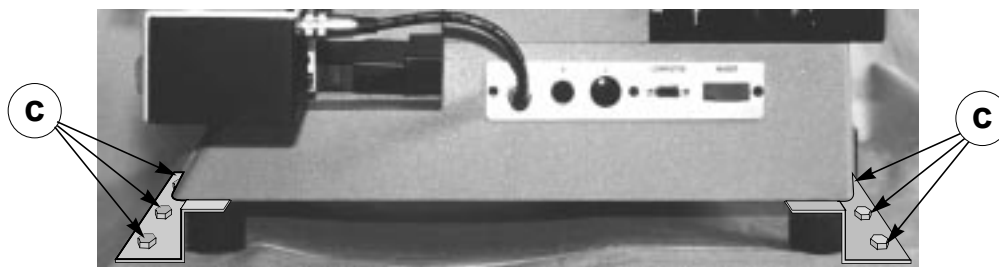

Fig. 7
- 3) unscrew the 3 screws (c) securing the front bracket to the pallet (fig. 7).
- 4) unscrew the 3 screws (c) securing the rear bracket to the pallet (fig. 7).
- 6) remove the metal brackets (fig. 7).